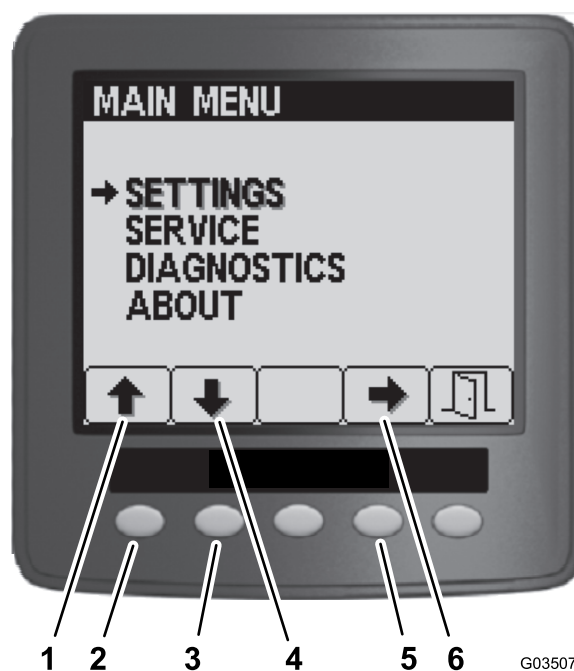

Figure 189
3. On the Main Menu, press button 1 or button 2 until the Settings option is highlighted, and press button 4 to navigate to the Settings menus (Figure 189).